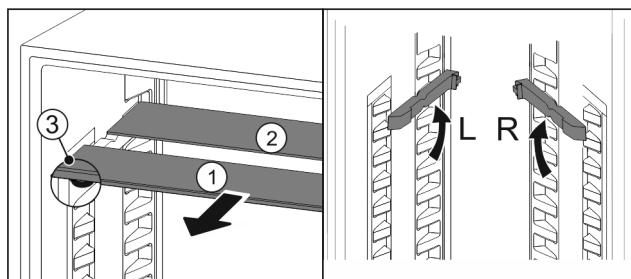

Fig. 54
- Pull the shelves out Fig. 54 (1) to the front one by one.
- ▷ The shelf Fig. 54 (1) with the trim strip is at the front.
- ▷ The stops Fig. 54 (3) point downward.